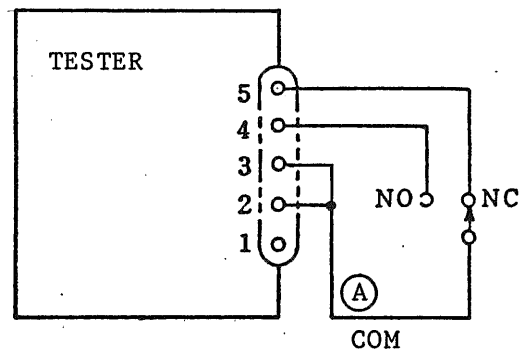

Figure 4.4
- ③ In the case of the setup shown in Figure 4.4, the test voltage is turned on when the switch is thrown to the NO Position, and instrument is forcefully reset when the switch is returned to the NC position.